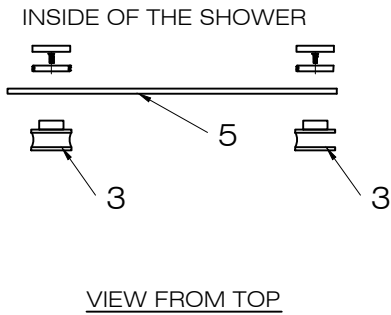

FIG. 7
2. Use the provided allen key to unscrew the adjustment screw and dismantle the roller. Place the screw through door panel top holes and attach the two top rollers onto the door panel (#5). [SEE FIG.7]